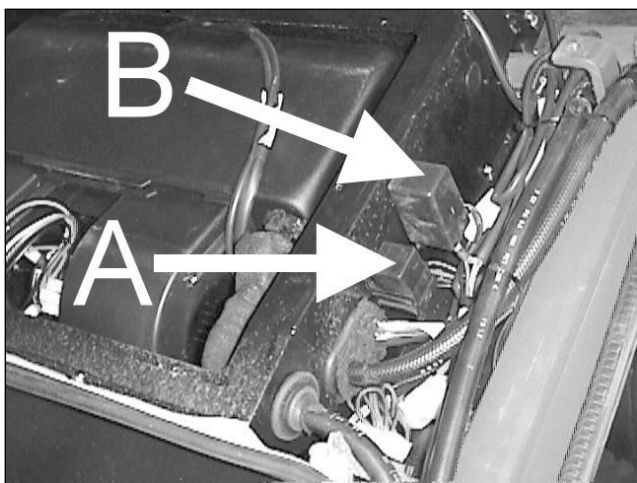

Fig.33
The relay **A** of Fig. 33 is the one sorting the 15 to all cabin sub-key uses, received current from the ignition switch (15) through the orange wire from the tractor. The red wire (30) comes directly from the tractor to the fuses box of the cab. The relay **B** of Fig. 33 is the one starting the rear cooling fan located in the back side of the cab roof, once received the signal from the fan assembly and from the thermostat located inside the condensing unit.